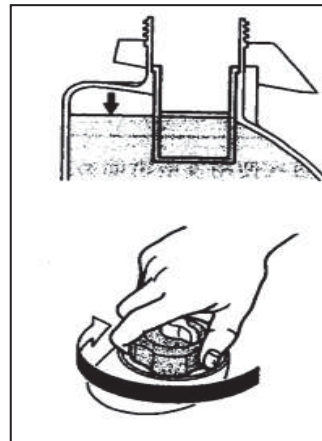

Fig. 5-1
1) CHECK ENGINE FUEL (See Fig. 5-1)